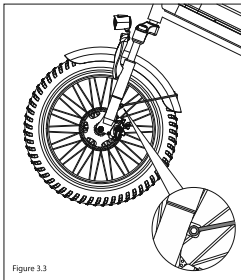

Figure 3.3
3. **Step 3:** Assemble the fender holder to the front suspension fork. (**As: Figure 3.3**).